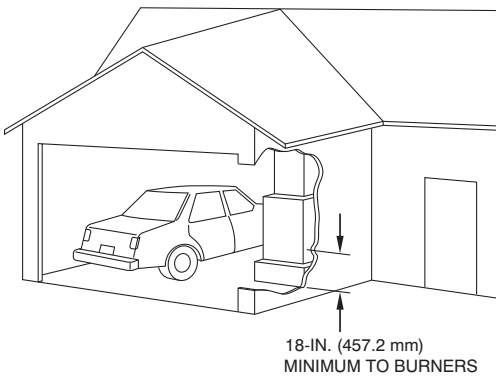

Fig. 5 - Installation in a Garage
8. A gas-fired furnace for installation in a residential garage must be installed as specified in the warning box in the "Location" section (see Fig. 5).
When the furnace is installed in a residential garage, the burners and ignition sources must be located at least 18 inches above the floor. (See Fig. 5) The furnace must be located or protected to avoid damage by vehicles. When the furnace is installed in a public garage, airplane hangar, or other building having a hazardous atmosphere, the furnace must be installed in accordance with the NFPA.